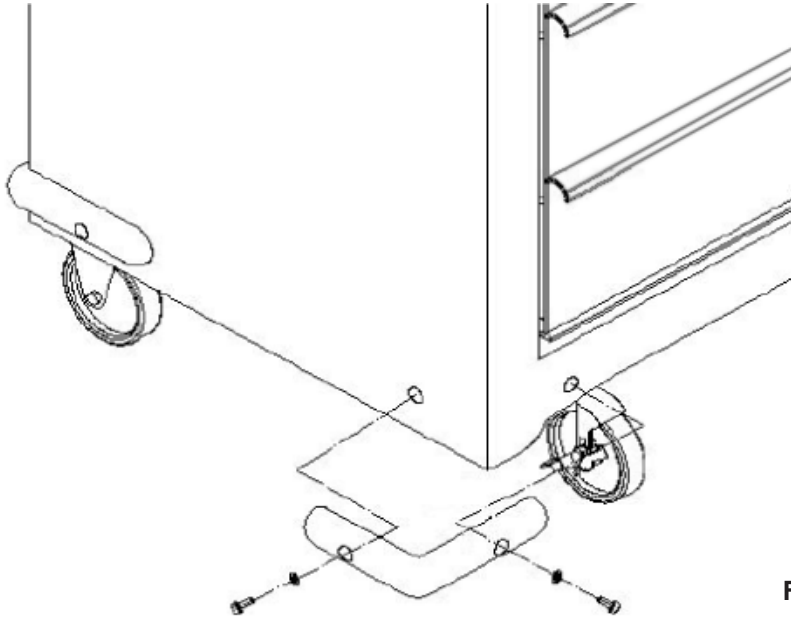

Fig.1
3.2 INSTALL THE CORNER BUMPERS (Fig.1).